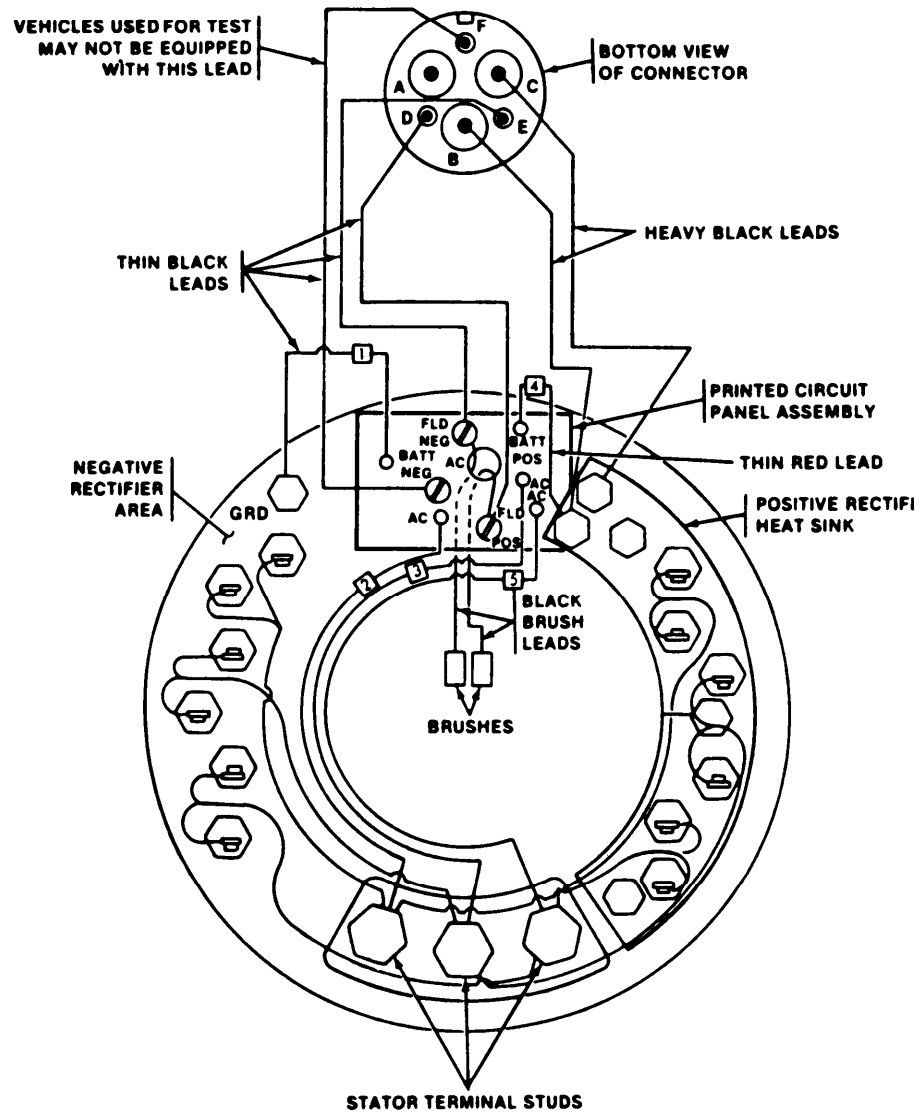

Figure 3-12. Drive End Housing Assembly Interconnection Diagram.
(10) Install brush holder, brushes, and printed circuit panel assembly in drive end housing assembly (fig. 3-3). Use figure 3-12 as a guide when making lead connections.
(11) Install mounting plate and connector assembly to drive end housing assembly (fig. 3-2). Use figure 3-2 and figure 3-12 to make lead connections.